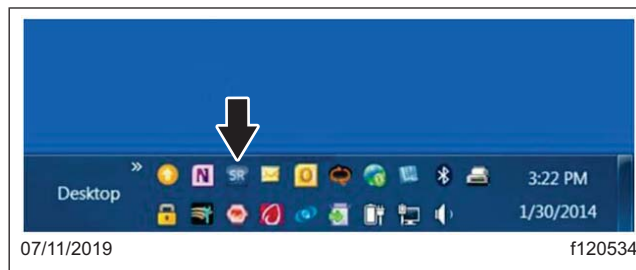

Fig. 1, Clicking the SR Icon
- 2.1 Left click the "SR" icon to open the ServiceRanger Update Manager. See Fig. 1.
- 3.2 Left click the "SR" icon to open the ServiceRanger Update Manager. See Fig. 1.